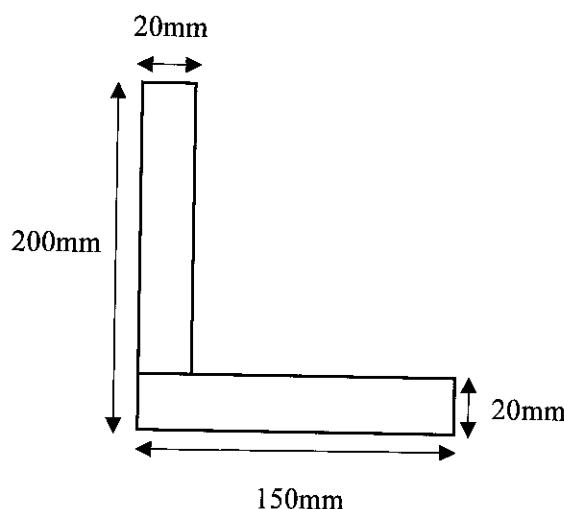

Figure A2(a)ii/ Rajah A2(a)ii
- CLO1 ii. Figure A2(a)ii shows an L-section of beam. Calculate the centroid of the section at x-axis.